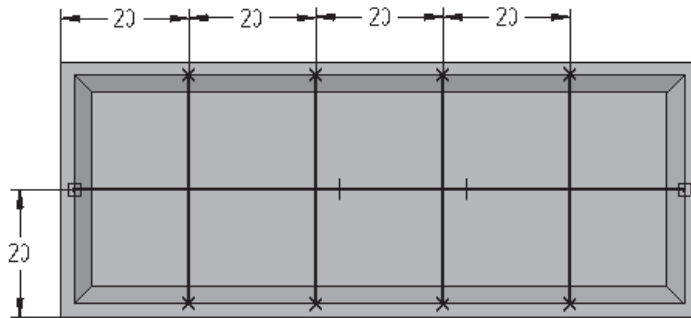

Figure 8-70 Sketch for the web network
- Create a web network in the model, refer to Figures 8-70 and 71.
3. Draw the profile of the web network, as shown in Figure 8-70.